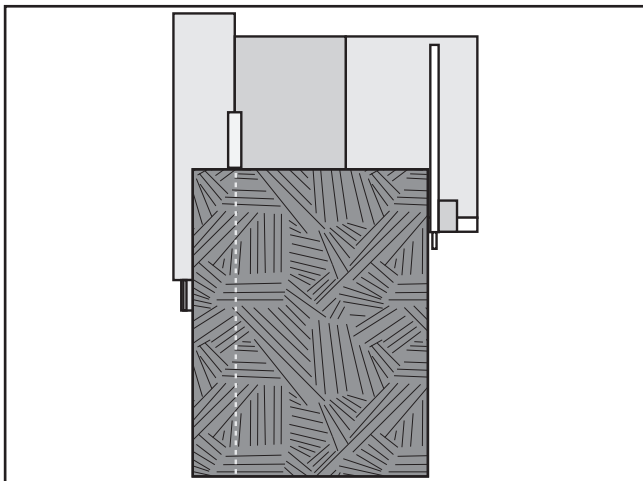

Figure 55. Traditional rip cutting.
This saw also has the capability of rip cutting in the same manner as a traditional table saw, as shown **Figure 55**.
4. Load the workpiece onto the table saw. The set up should look similar to **Figure 55**.